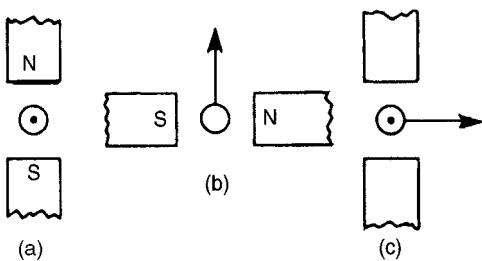
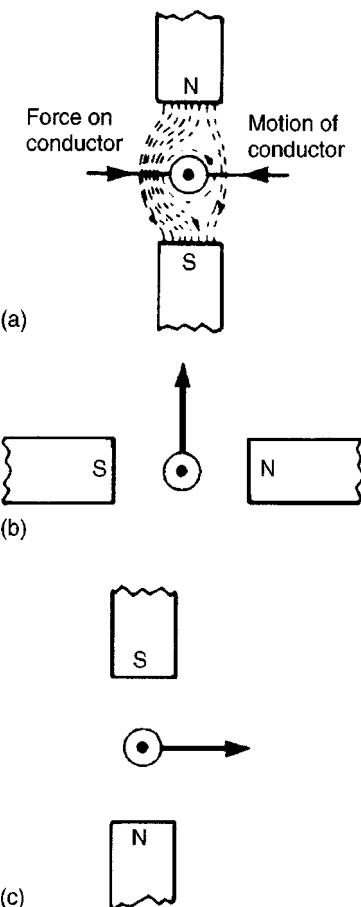

Figure 9.4
Figure 9.5
Problem 5. The diagrams shown in Fig. 9.4 represents the generation of e.m.f.'s.
Determine (i) the direction in which the conductor has to be moved in Fig. 9.4(a),
(ii) the direction of the induced e.m.f. in Fig. 9.4(b), (iii) the polarity of the magnetic system in Fig. 9.4(c)
(i) Using Lenz's law: The field due to the magnet and the field due to the current-carrying conductor are shown in Fig. 9.5(a) and are
i.e. **towards the viewer or out of the paper**, as shown in Fig. 9.5(b)
(iii) The polarity of the magnetic system of Fig. 9.4(c) is shown in Fig. 9.5(c) and is obtained using Fleming's right-hand rule.